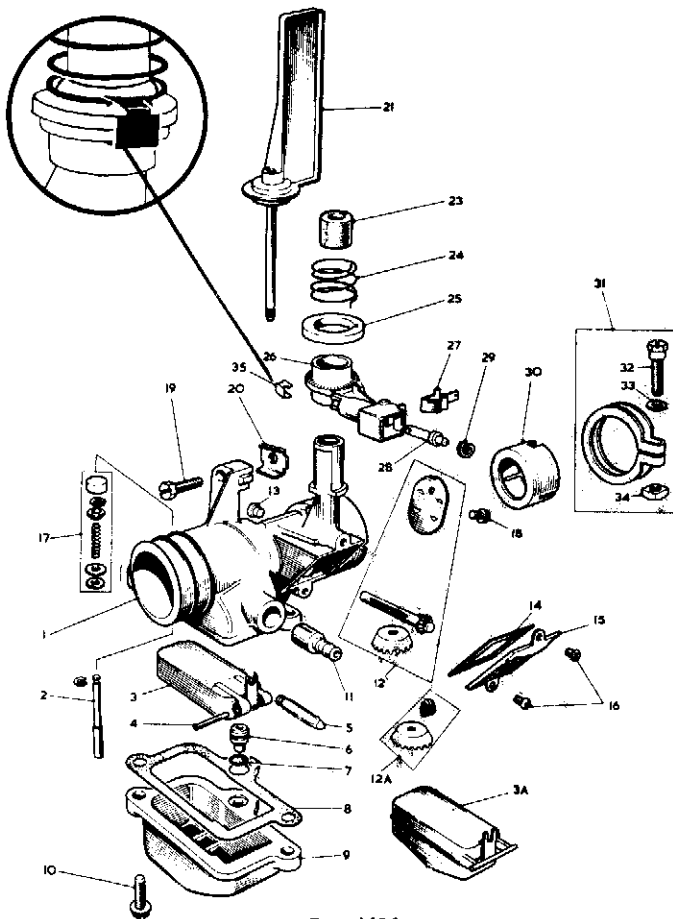

Fig. N13
The clip is positioned in such a manner that if extra spring tension is necessary the clip can be pulled off with a pair of long nosed pliers, the tension increased, and the clip put back in position. See illust. No. 35 in fig. N13.
**Refer to Fig. N13 for Illustration Numbers.**